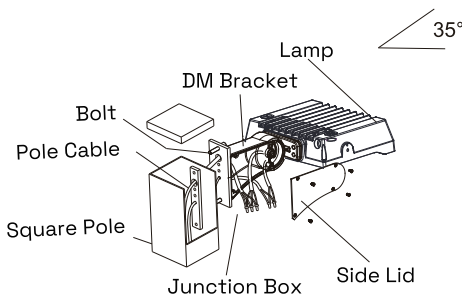

Fig 5.1
Step 1: Fix DM bracket to square pole with bolt, open the side lid of DM bracket, Pull the wire into junction box, and connect the wire correctly. Figure 5.1